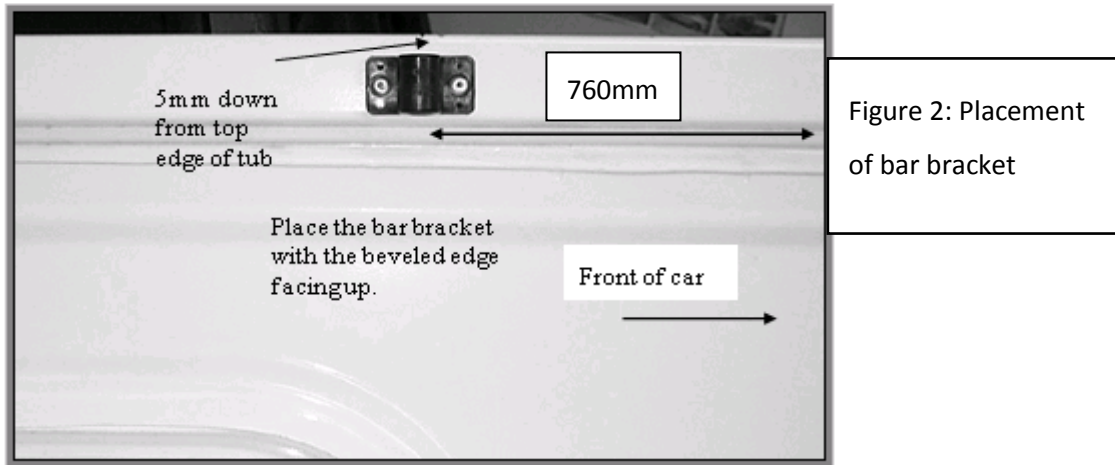

Figure 2: Placement of bar bracket
6. To fit the bar brackets, measure 760mm back from the inside front edge at the top of the tub and place them as shown in Figure 2. (5mm down from top edge of tub) Drill and rivet using two large rivets for each Bar Bracket. Install the support bar according to the supplied instructions.